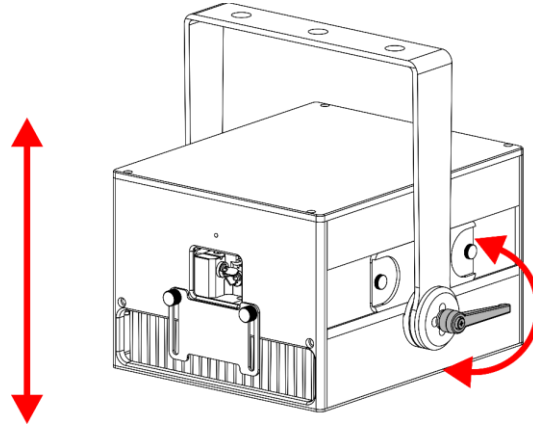

Fig. 11
- 03) Turn the **adjustment screws (04)** counterclockwise to release them.
- 04) Tilt the device at the desired angle (see Fig. 11).
- 05) Turn the **adjustment screws (04)** clockwise to tighten them. Make sure that the device cannot move freely after the **adjustment screws (04)** are tightened.